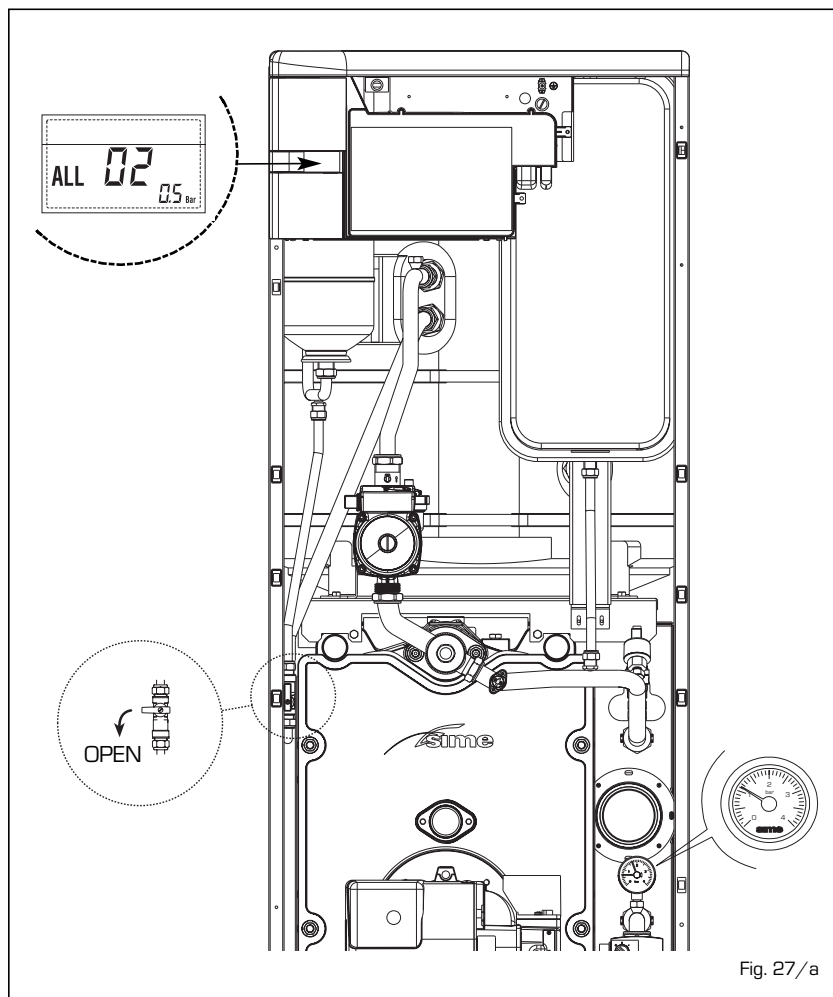

Fig. 27/a
- **SAFETY THERMOSTAT (fig. 27/d)**